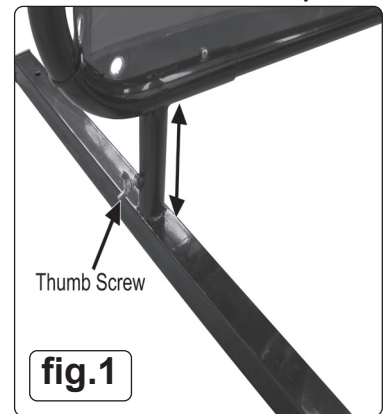

fig.1
- 4.7. The frame can be raised or lowered by loosening the thumb screw (fig.1) on the feet, when at the required height, tighten the thumb screw.